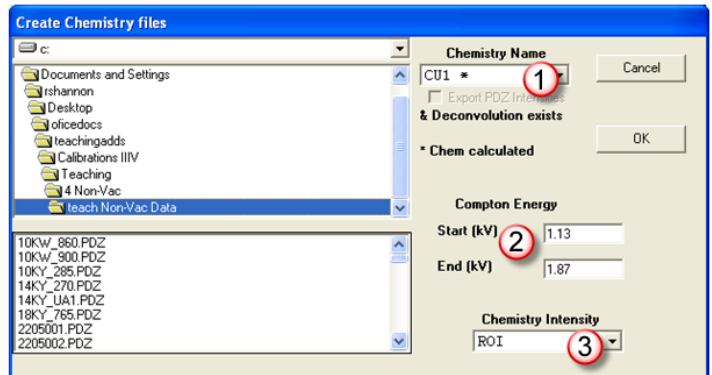

Figure 7
7.10. **SELECT** the appropriate chemistry calibration model (e.g., Cu1) (Figure 7, 1).
When using Compton for Chemistry Intensity, use either the actual Compton energy range (Figure 7, 2), or select any energy range that provides optimal count rate and does not (and will not) have any element intensities.
7.11. **SELECT** the Chemistry Intensity (normalization method) (Figure 7, 3):